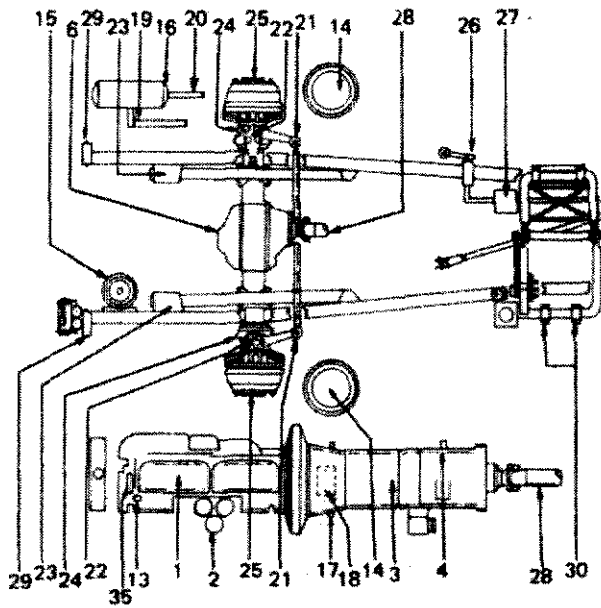

Fig. 28 Chassis and components identification (front section)
## Crankcase and oil filter change procedure (See fig. 28 item 1)
## Transmission (See fig 28 item 3)
### **Front axle differential (See fig. 28 item 6)**
### **Water conditioner (See fig. 28 item 13)**
### **Air cleaners (See fig. 28 item 14)**
### **Power steering (See fig. 28 item 15)**
### **Steering box input shaft saltseal housing (See fig. 28 item 16)**
### **Clutch cross shaft (See fig. 28 item 17)**
### **Clutch release bearing (See fig. 28 item 18)**
### **Drag link (See fig. 28 item 19)**
### **Steering shaft (See fig. 28 item 20)**
### **Tie-rod ends (See fig. 28 item 21)**
### **Drive hub pivots (See fig. 28 item 22)**
### **Spring shackle pins (See fig. 28 item 23)**
### **Front axle constant velocity joints (See fig. 28 item 24)**
### **Front wheel bearings (See fig. 28 item 25)**
### **Transfer case selector (See fig. 28 item 26)**
### **Transfer case linkage support (See fig. 28 item 27)**
### **Propeller shafts (See fig. 28 and 29 item 28)**
### **Mudguard hinges (See fig. 28 item 29)**
### **Water pump housing (See fig. 28 item 35)**
### **Spare wheel carrier pivots (See fig. 28 item 30)**